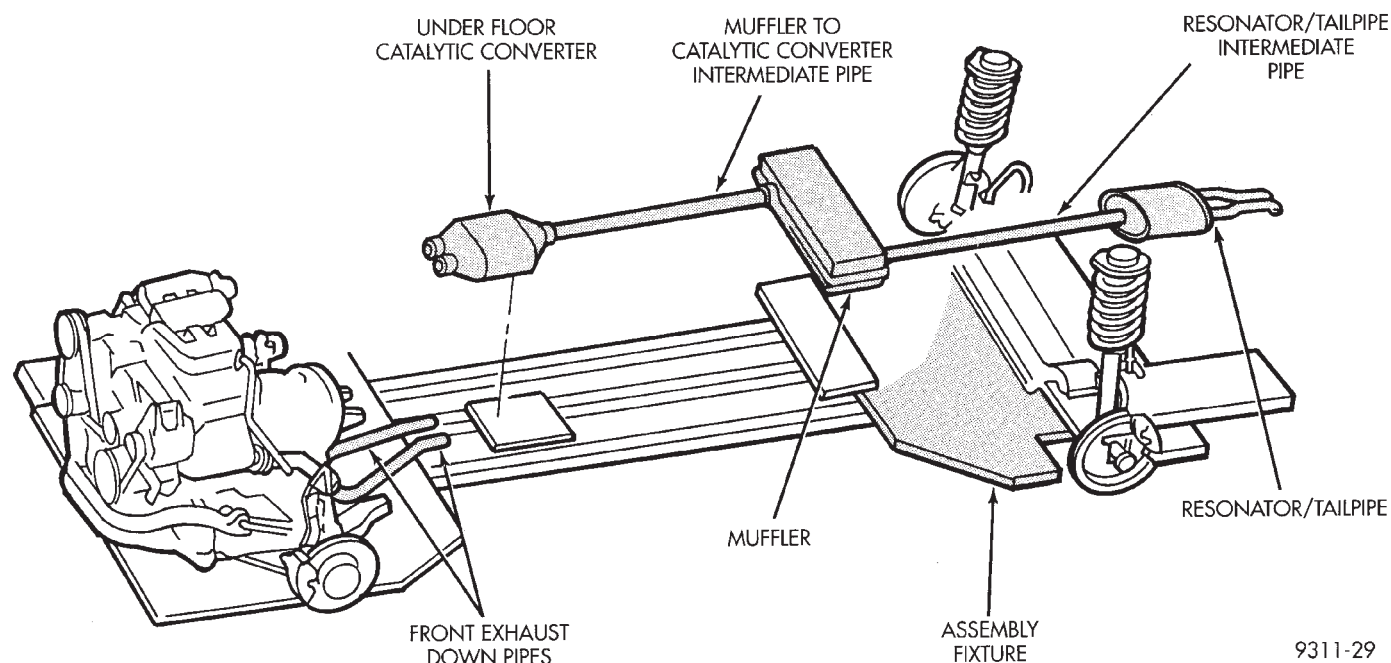
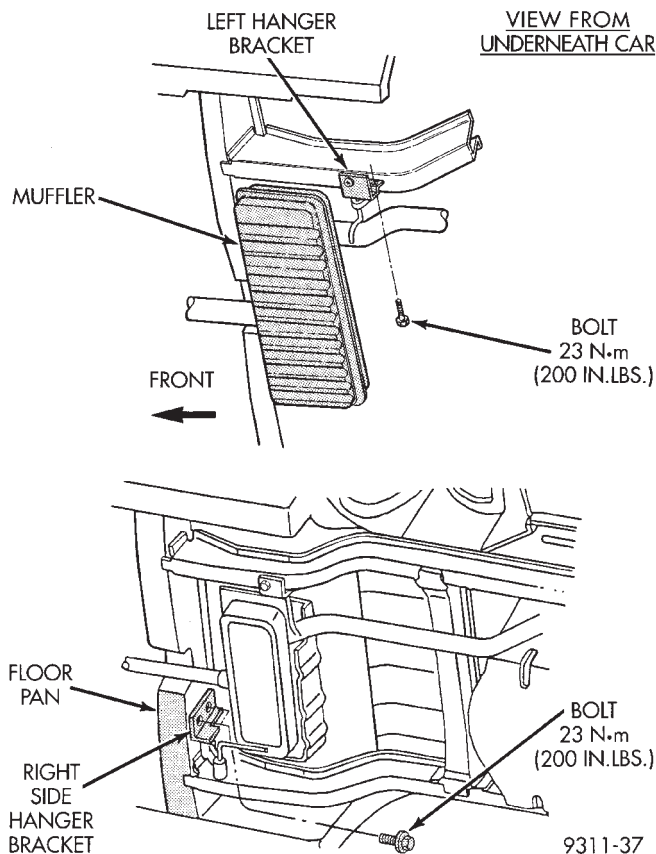

Fig. 8 Under floor Catalytic Converter and Muffler Assembly Service Locations
Fig. 9 Muffler Assembly Support Bracket Locations
(1) With the exhaust module removed, cut the converter to muffler intermediate pipe just in front of the muffler (Fig. 8).
(2) Install new converter onto intermediate pipe, and install new clamp loosely.
(3) Install front down pipes. Refer to Front Exhaust Down Pipe procedure in this section.
(1) With the exhaust system removed, cut the converter to muffler intermediate pipe just behind the converter (Fig. 8).
(2) Install the new muffler assembly onto the remainder of the intermediate pipe and loose assembly the accompanying clamp.
(3) Remove the exhaust support brackets from the vehicle (Fig. 9).
(4) Install new exhaust support brackets found on the replacement muffler assembly onto vehicle in the same location the old ones were removed (Fig. 9).
(5) Install exhaust system. Refer to procedure outlined in this section.